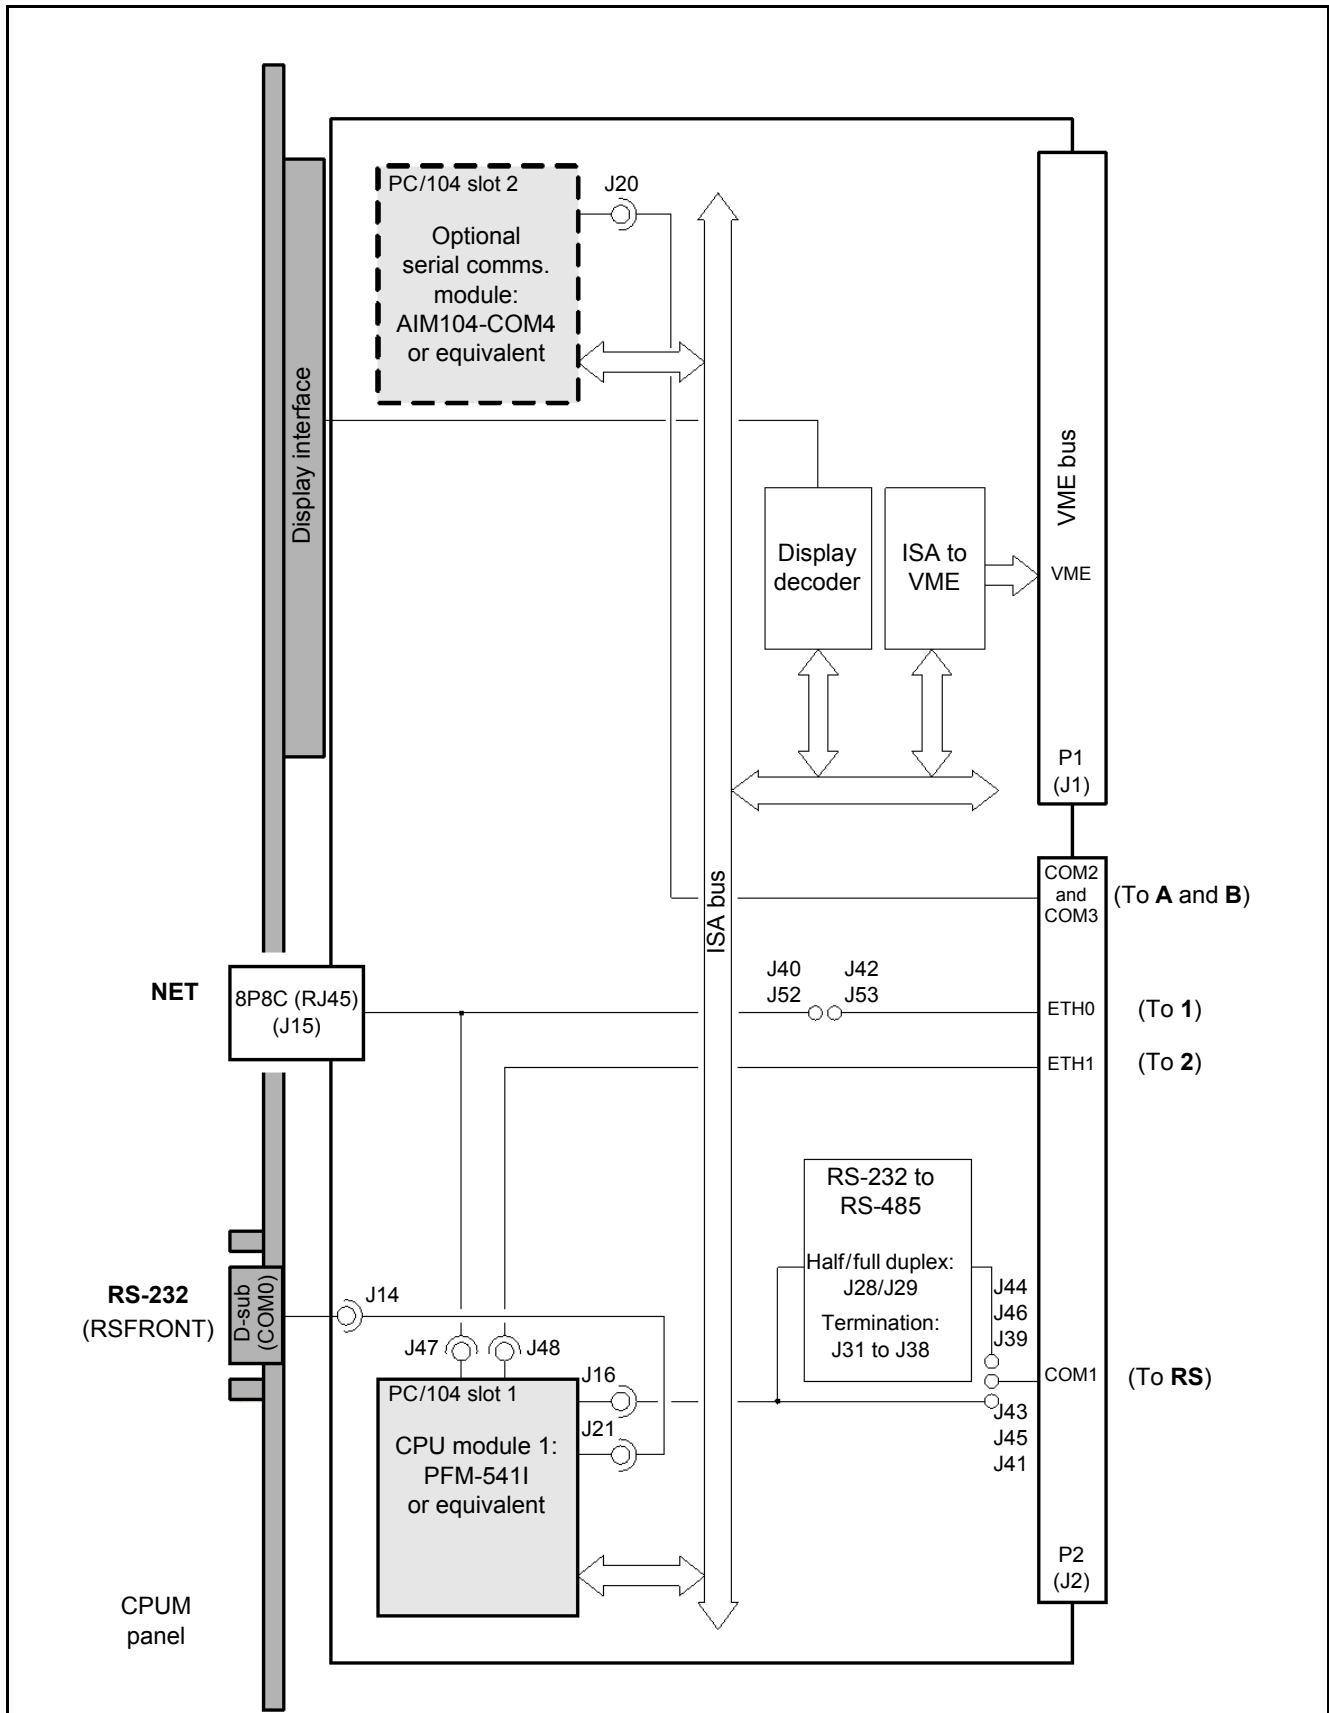

Figure 6-1: Block diagram of CPUM card fitted with the PFM-5411 or equivalent CPU module (PNR 200-595-076-HHh or later)
- Later versions of the CPUM card (PNR 200-595-076-HHh or later) fitted with the PFM-541I or equivalent CPU module (see Figure 6-1).
Figures 6-1 and 6-2 show block diagrams of the different versions of the CPUM card with their different CPU modules:
- The RS-232 serial port on the card's panel, shown as **RS-232** (COM0) in Figures 6-1 and 6-2, corresponds to the RSFRONT device in the `modbusDefault.cfg` configuration file.